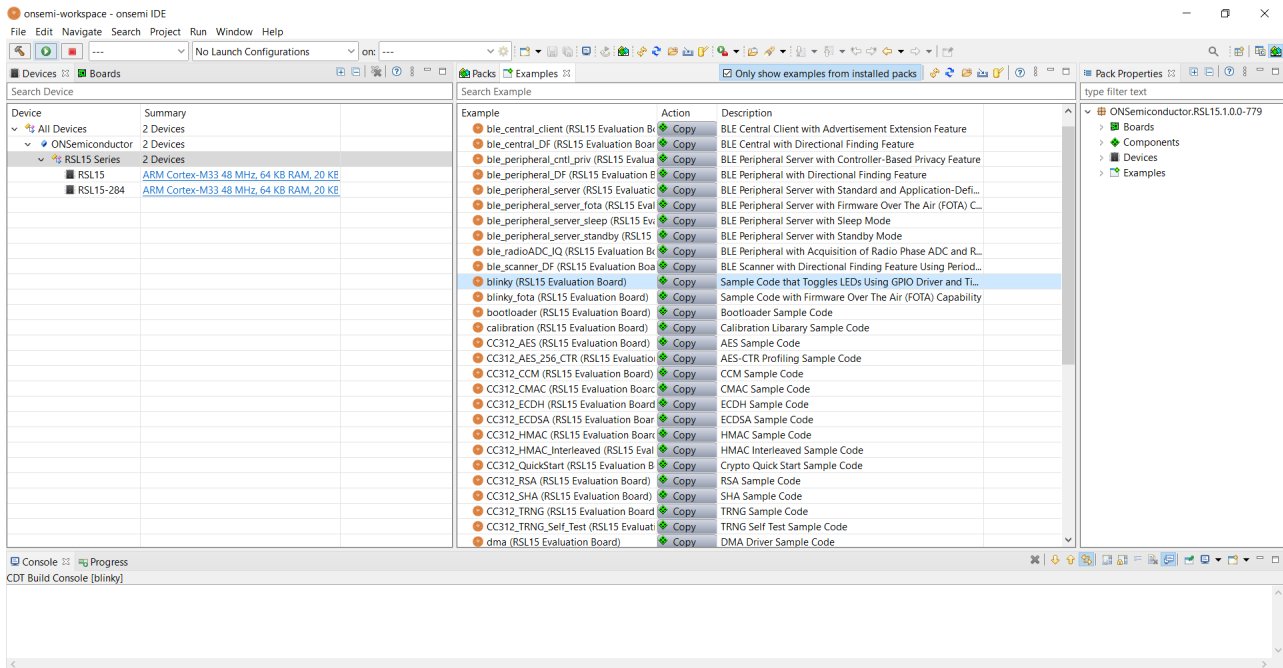

Figure 8. Pack Manager Perspective: Examples Tab
1. In the Pack Manager perspective, click on the **Examples** tab to list all the example projects included in the RSL15 CMSIS-Pack. (See the figure "Pack Manager Perspective: Examples Tab" (Figure 8).)